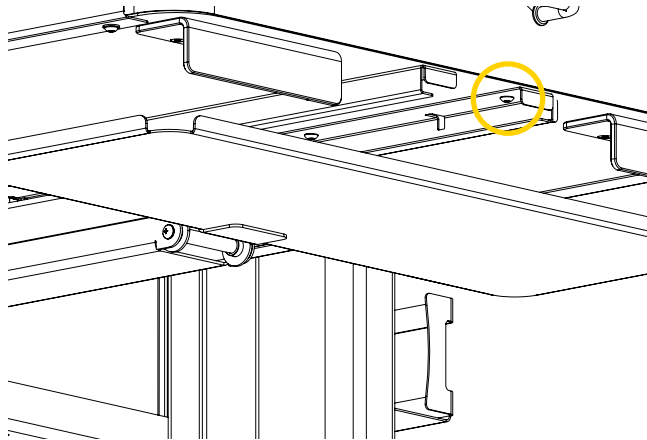

Figure 13: Loosening the screws under the rail on the right-hand side of the 2-part sliding mechanism (2 of 2)
- B. Push the tray horizontally to insert it and access the last inner screw (Figure 13), then loosen it using a $\frac{1}{8}$ in. hex key.